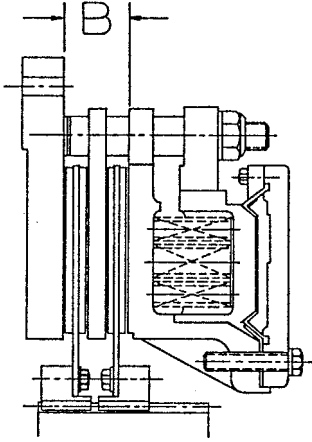

Figure 7
- 4.1.1 Referring to **Figure 7**, Dimension "B", which is the gap between the pressure plate (7) and mounting flange (1) faces, will gradually diminish as the friction material wears. The 229DBAT is supplied with wear spacers (25), which allow for two wear adjustments before replacement of the friction discs is required. Adjustment is required when the "B" dimension shown on **Figure 7** is LESS than the values shown below. Note: the "B" dimension is measured with the brake engaged (air off).